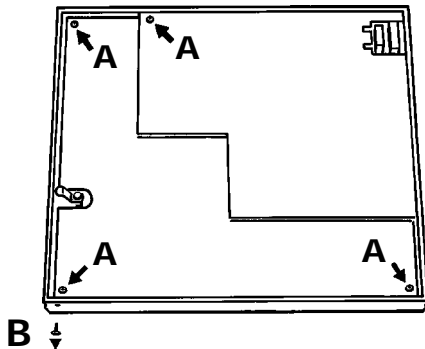
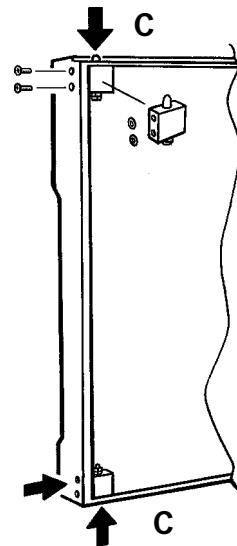

Figure 2a Inner cover securing screws
Figure 2b Door catches (not all models)
- a Release the door inner cover by undoing and removing the fixing screws ('A' in figure 2a). Remove the plastic door guide if fitted ('B' in figure 2A) and keep safely for later re-assembly. Remove the door latches ('C' in figure 2b) if fitted (depends on model).